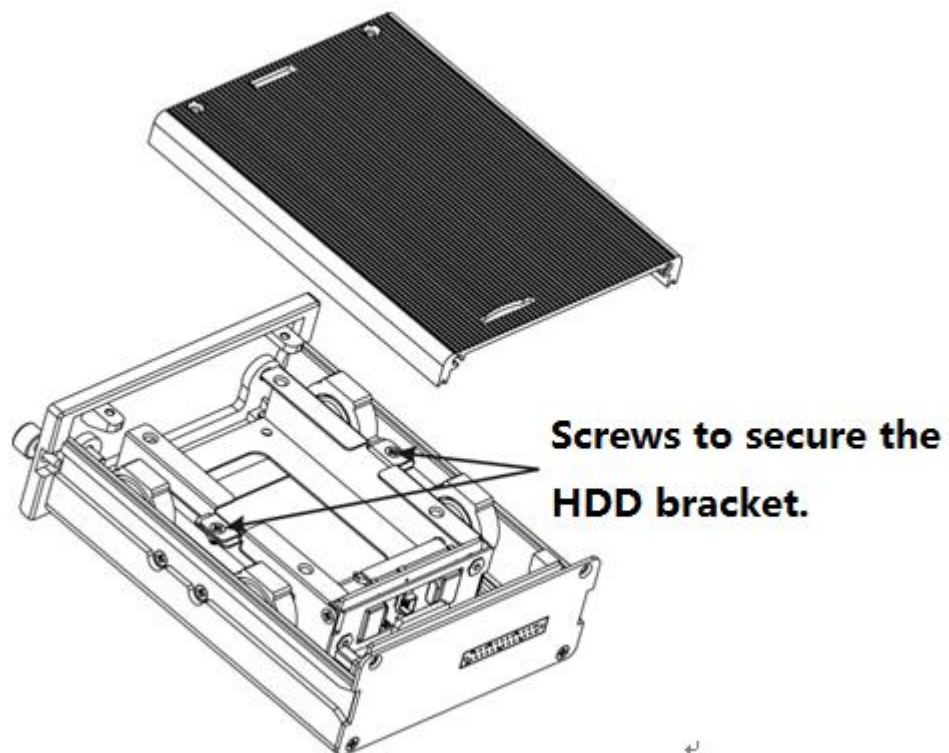

Figure 3-2
- 2) Remove HDD bracket. Now you can see an interface shown as in Figure 3-2. Unfasten the two screws that secure the HDD bracket.